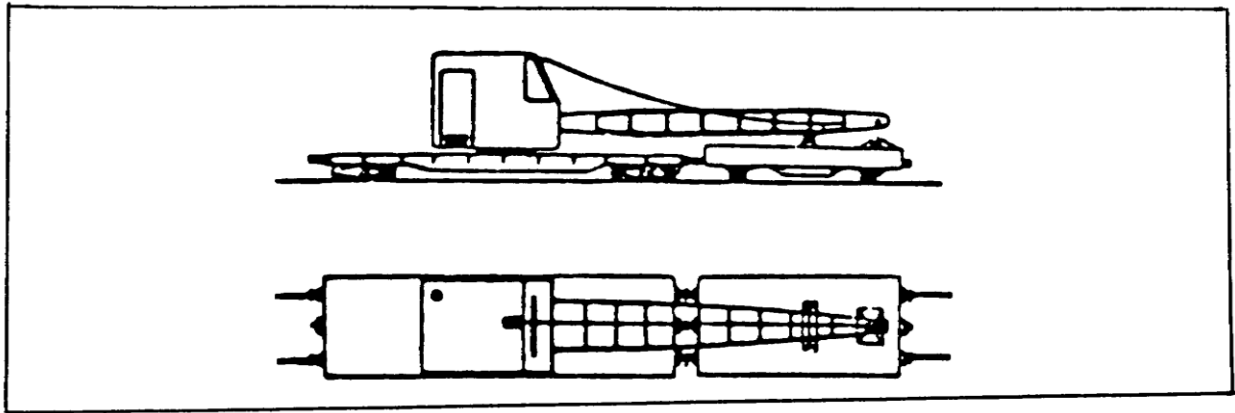

Figure 1-42. Flat Car with Crane.
f. Mobile cranes used in bridging, maintenance, derailments, and accidents. In transit, the lowered jib is carried on "match-truck" (small flatcar)(Figure 1-42).